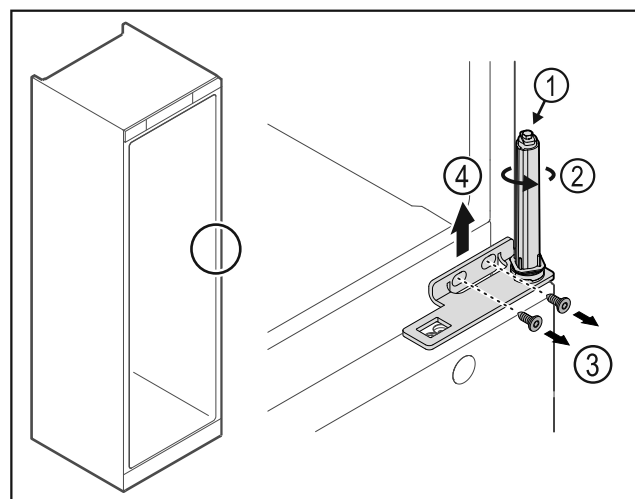

Fig. 26
- ▶ Do not disassemble the door closing system Fig. 26 (1).
- ▶ Turn the closing system Fig. 26 (2) until it clicks.
- ▶ Loosen the screws Fig. 26 (3) and lift off the hinge Fig. 26 (4).